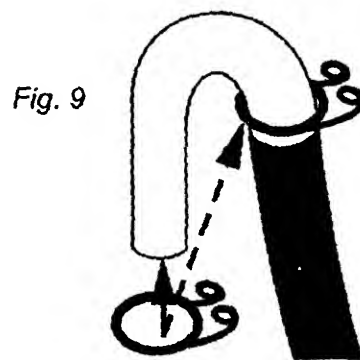

Fig. 9
9. Secure the hook end with the yellow hose clamp. (Fig. 9)